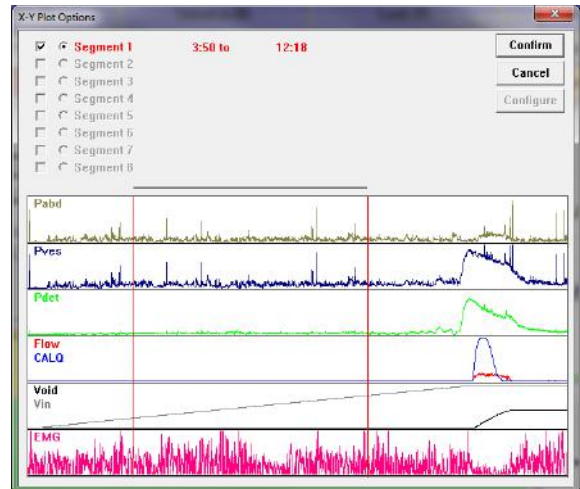

Figure 85: X-Y Plot Options – Change Segments
2. In the Segment section, click the **Change** button. Select the segment analyzing range by dragging the mouse pointer across the graph from left to right (Figure 85).